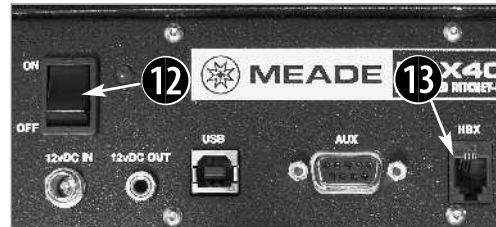

Fig. 16: Locations of the On/Off switch and the HBX port on the Computer Control Panel located on the base of the telescope.
1. **Plug in the AutoStar II handbox:** Check that the power switch on the computer control panel (12, Fig. 16) is in the OFF position. Plug the coil cord of the AutoStar II handbox into the HBX port of the base control panel (13, Fig. 16) or the HBX port of the OTA control panel (M, Fig. 1e).